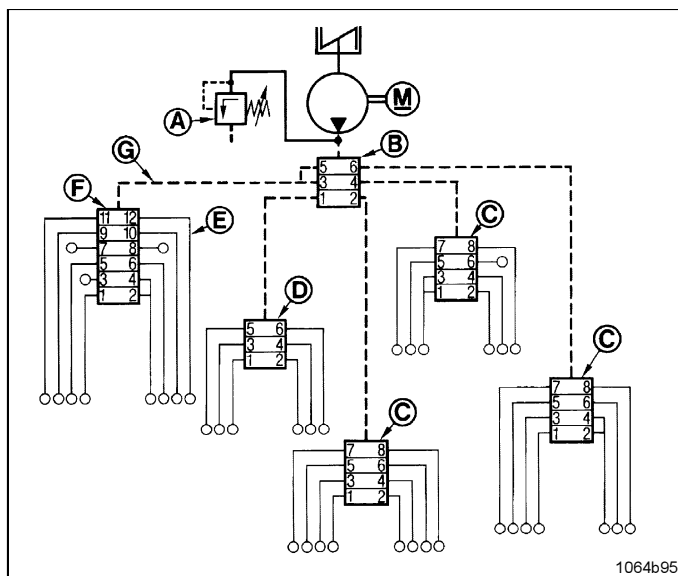

Fig. 30 Example of a lubrication system
- Loosen all high pressure hose connections G one after the other from the main metering device B (fig. 30) leading to the secondary metering devices. If f. ex. grease or oil emerges under pressure from outlet 1 of main metering device B, the blockage will be found in the lubrication circuit of the secondary metering device D.